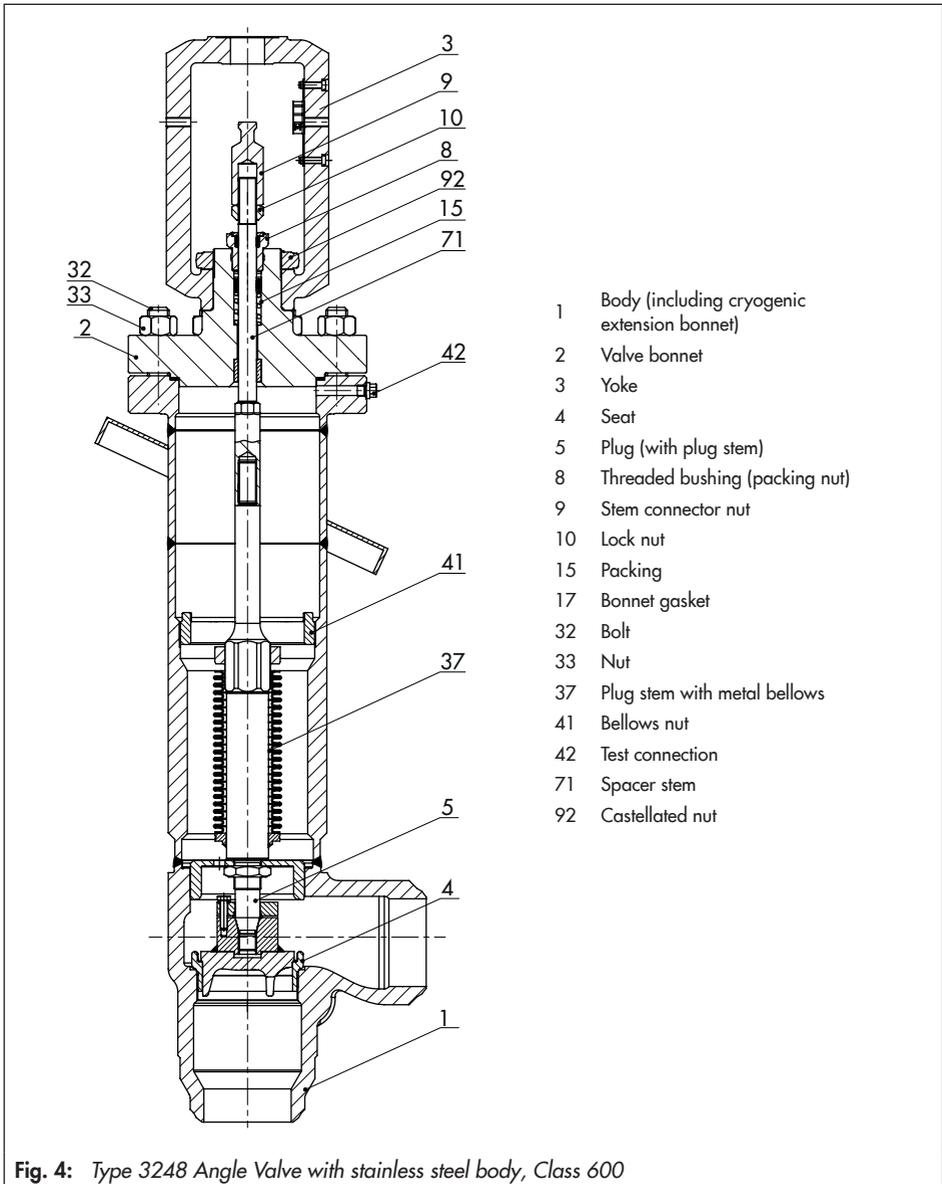

Fig. 4: Type 3248 Angle Valve with stainless steel body, Class 600
- Globe or angle valve with stainless steel body, NPS 1 to 6, Class 600 (see Fig. 4)
In the Class 150 to 300 version, the valve bonnet (2) is designed as a yoke (see Fig. 3). In the Class 600 version, the valve bonnet (2) is designed as an intermediate piece. A yoke (3) is fastened onto the valve bonnet with a castellated nut (92) (see Fig. 4).